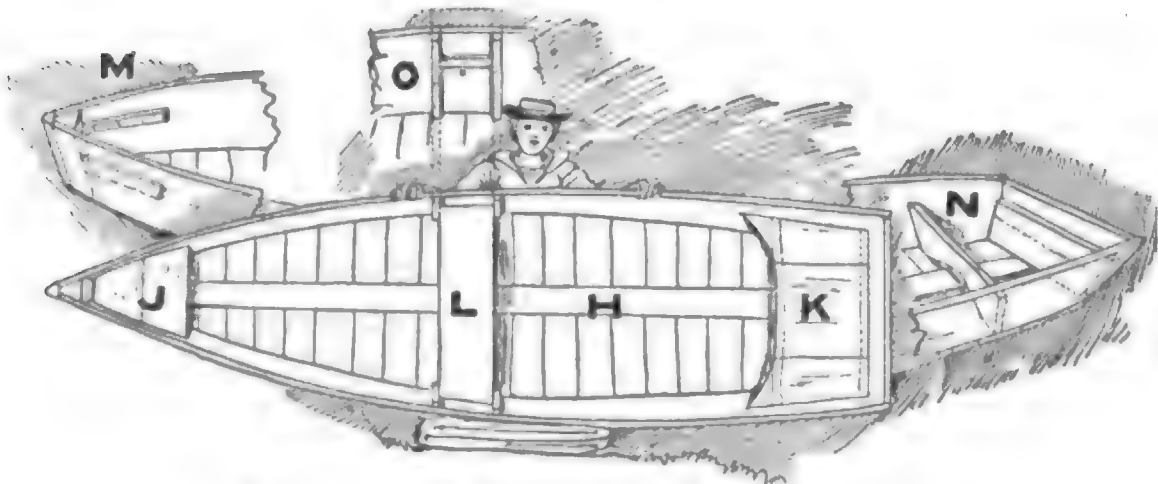

Fig. 133.—Details of bow, stern, seats, and finished boat.
consist of a triangular one at the bow (J), the oarsman's seat (L), and the stern seat (K, Fig. 133). The bow seat is made of 1-inch boards nailed to two cleats shown at M (Fig. 133). N shows the bench for the stern seat and O explains the arrange-
ment of the oarsman's seat a little forward amidships. As may be seen, it rests upon the cleats *x* (Diagram O, Fig. 133), which are fitted between two upright cleats on each side of the boat; this makes a seat which will not slip out of place, and the cleats serve to strengthen the sides of the otherwise ribless boat. Make the cleats of 1 by 2-inch lumber and let the seat be about 12 inches wide. The stern seat may be wider,  $1\frac{1}{2}$  feet at K and 4 or 5 inches more at the long sides of the two boards each side of K (Fig. 133). Of course, it is not necessary to fit a board
in against the stern-piece, for a cleat will answer the purpose, but a good, heavy stern-piece is often desirable and the board shown in diagram N (Fig. 133) will serve to add strength to the stern as well as to furnish a firm rest for the stern seat, but it will also add weight.
is an advisable addition to the boat, but may also be omitted without serious results (H, Fig. 133).